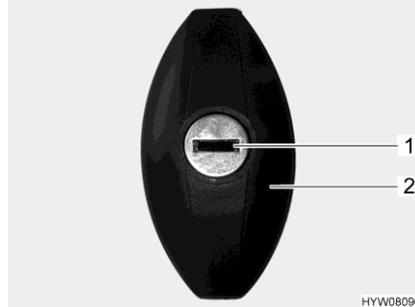

Fig. 42 Flap lock
- Insert key into locking cylinder (Fig. 42,1) and turn one half turn in an anticlockwise direction. The lock handle (Fig. 42,2) snaps out.